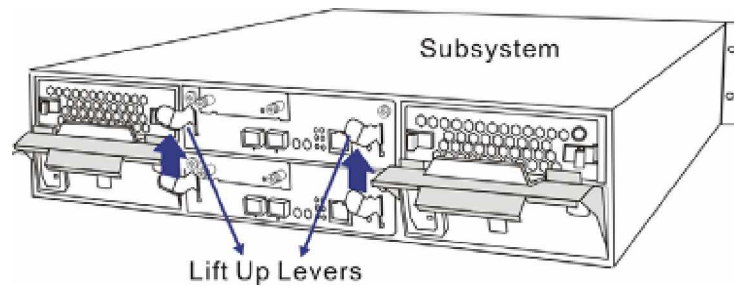

Figure 5-5: Lifting the Controller Module Latches Upward
Step 4. Reposition the controller module. Once fully inserted, lift up the levers at the back of the controller module. This will set the controller module in the correct position. (See Figure 5-5)